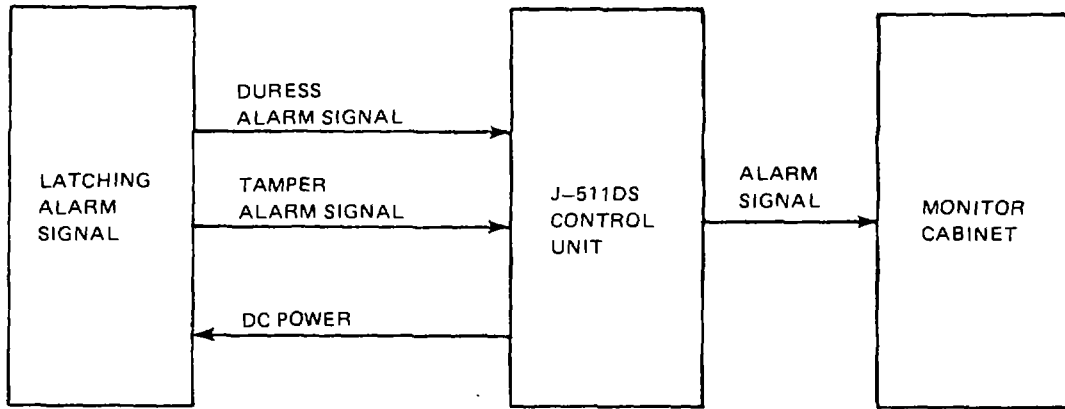

Figure 2-2. LAS Simplified Functional Block Diagram
- a. The LAS permits authorized personnel to manually activate an alarm signal to the J-SIIDS Control Unit when the security of an area is threatened. The LAS chassis cover contains a tamper switch that also activates an alarm signal when the cover is removed from the housing by ¼ inch (0.635 cm) or more. See figure 2-2 for a simplified functional block diagram of the LAS.
(1) Duress alarm. When an operator actuates the duress alarm switch, the low impedance across TB1-1 and TB1-2 is changed to a high impedance which is used as the duress alarm signal output. When the duress alarm switch contacts open, volt-